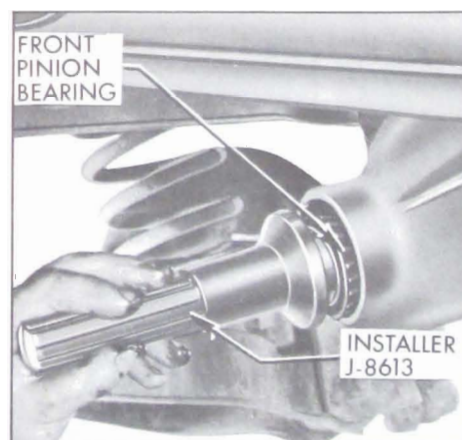

Fig. 6-25—Installing Front Pinion Bearing
2. Place front pinion bearing in position on pinion. Hold pinion fully forward and drive bearing over pinion until seated. Use Installer J-21128. See Figure 6-25.